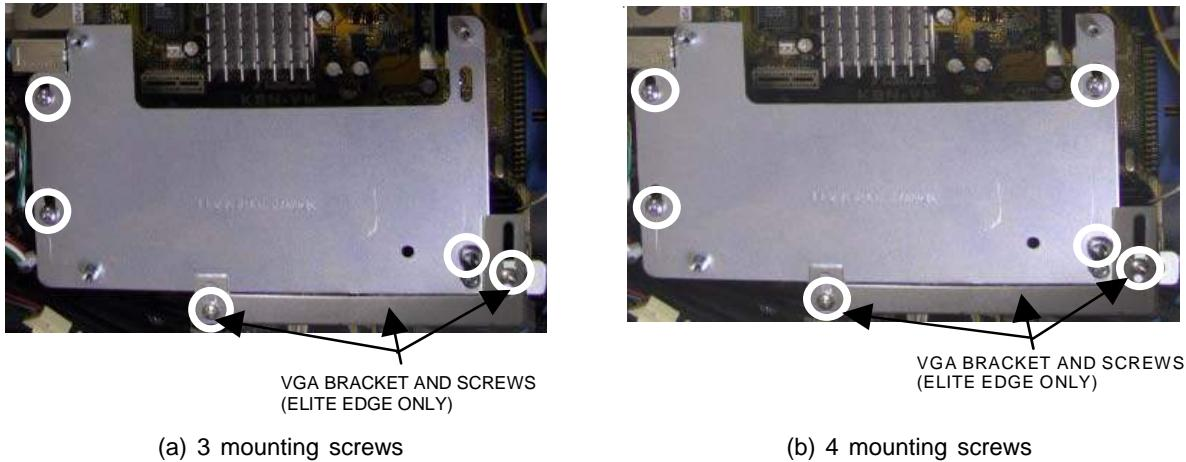

FIGURE 6 - ASUS I/O MOUNTING PLATE
5. Remove the 2 screws securing the VGA cable mounting bracket, then remove the bracket (Elite Edge games only). Remove the 3 or 4 screws securing the I/O mounting plate, then remove the plate. See Figure 6.
3. Secure the I/O board mounting plate with the 4 mounting screws. Secure the VGA bracket to the I/O plate with 2 screws (Elite Edge games only). See Figure 6.